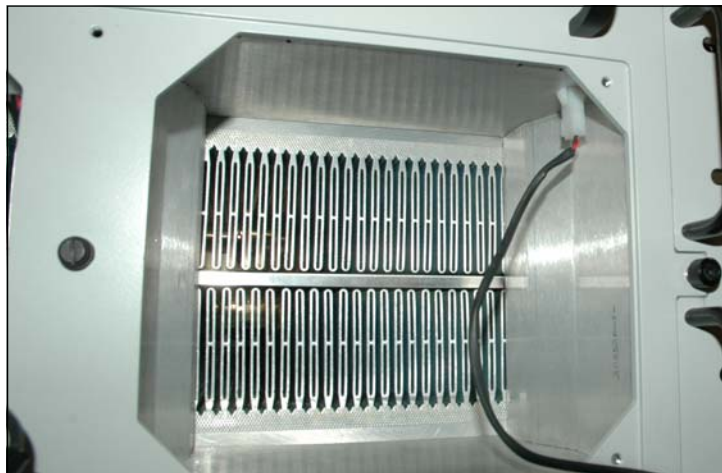

Figure 4-13: Unplug Fan Power Cords (One for Each Fan)
3. Unplug the fan power cords from the power pole connectors. Each fan has its own power cable. See **Figure 4-13**.